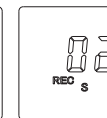

Fig.4
(2). To set the data sampling time interval. Press **MODE** again, the sign "REC" and "S" would both flickering (Fig.4).